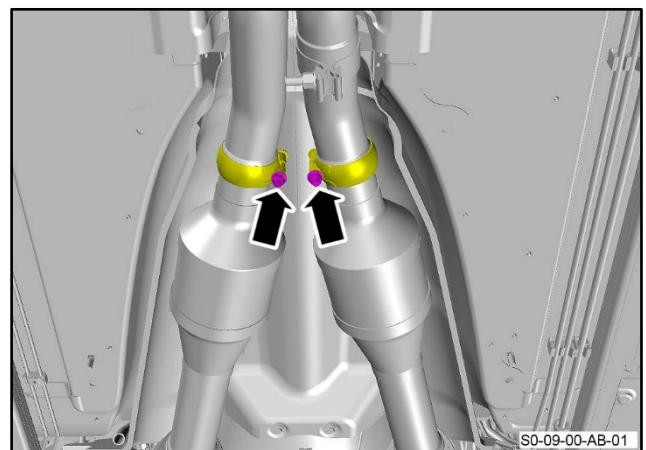

Figure 6
12. Loosen the two bolts on the clamps that attach the catalytic converter and pipe assemblies to the centre exhaust pipe (refer to Figure 6).